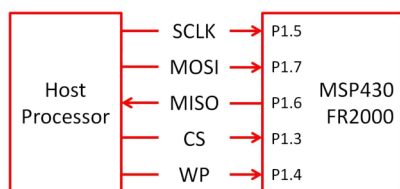

Figure 1. EEPROM SPI Block Diagram
EEPROM emulation is configured to use SPI protocol in slave mode. A host processor acting as the master should be connected so that it can write or read data from the MSP430 MCU. Beyond the typical SPI bus (SCLK, MOSI, MISO, and CS) a write protect (WP) line is also used. Figure 1 shows the SPI block diagram interface.